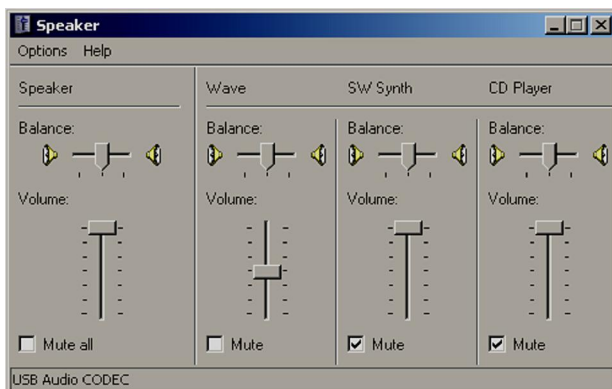

Figure 3 Volume Control Panel
- The volume control panel will now open. Set the Speaker control (far left control) to 100% max volume, and set the Wave control to 50%. Note that the Speaker and Wave controls should NOT be muted. All other controls can be. Your volume control panel should now look similar to the one shown below in Figure 3:
- **Draw Jumper Wires** - Once you have verified your pin-out and are comfortable with the results, you are ready to label the lines in Figure-2 and draw in the jumper wires. To do this, you simply need to draw a line between the pins on the left of JP-1 (G, PTT, Mic & SPKR) and their appropriate match on the right side of the diagram. For example, draw a line between the "G" pin on the left of JP-1 and the line that you labeled "Ground". The "PTT" pin should be connected to the pin that you labeled "PTT" and so on. If you are installing the Signalink on a Data or Accessory port, then refer to Figure 1 for the correct signal names. An example of the microphone Jumper Wiring Diagram for a Kenwood TS-450 is shown in Figure 3.
Figure 3 ó Example Jumper Wire Diagram for TS-450 Mic